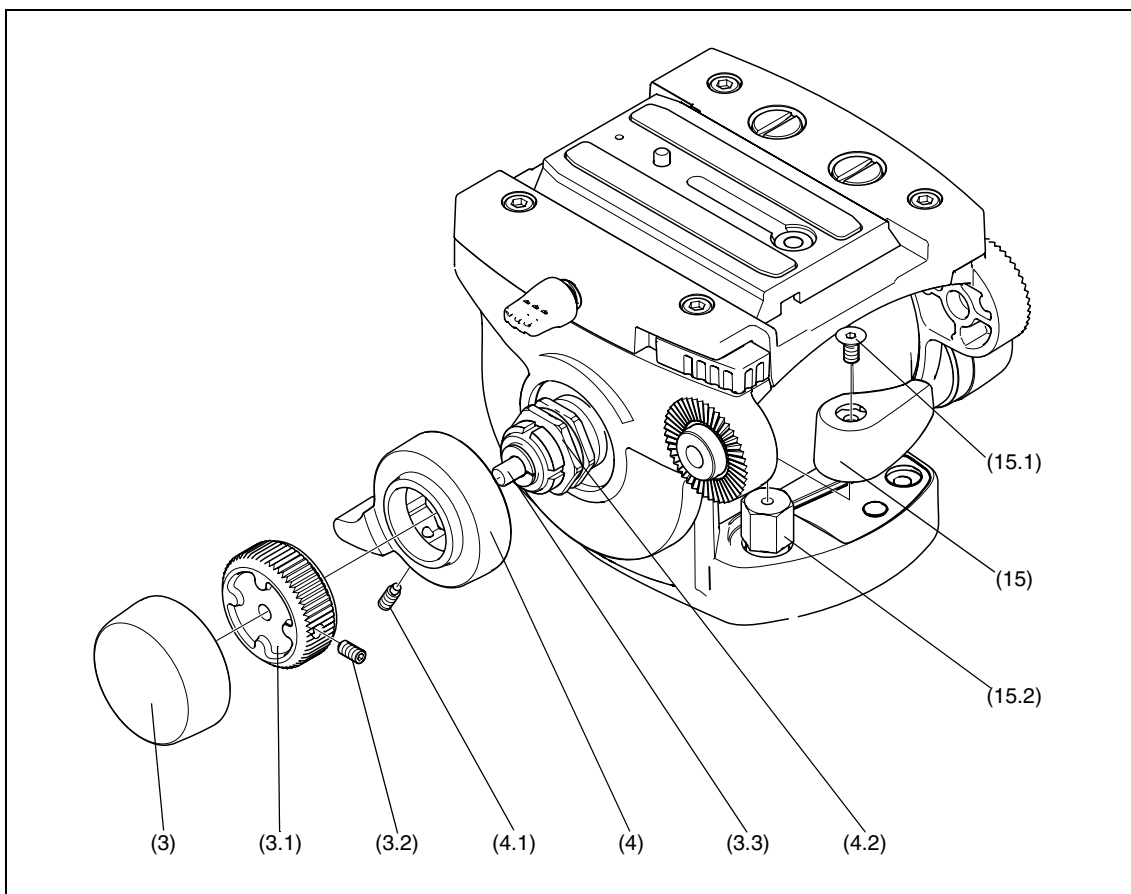

Fig 8 Pan and tilt brake knob adjustment
Slide off the rubber tilt drag knob (3) as shown in (Fig 8).